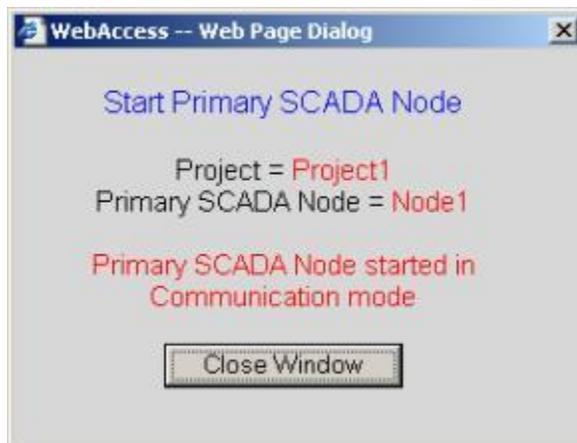

Figure 4-33 - Start SCADA Node
6. The Start Node Dialog Box pops open (Figure 4-33).
7. When Node is started, select Close Window (Figure 4-33).